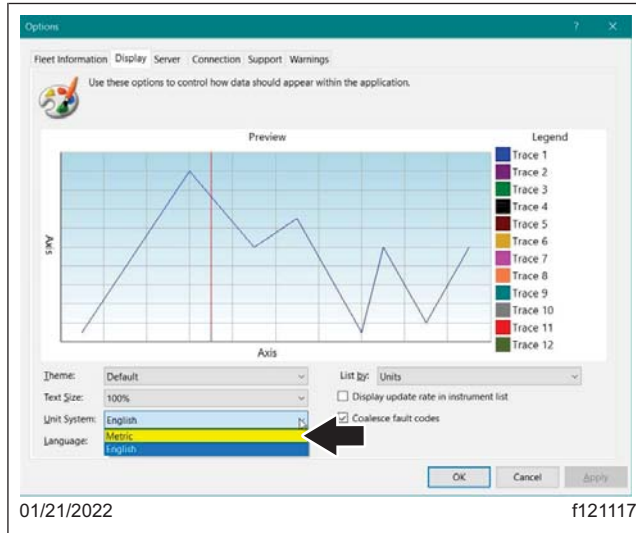
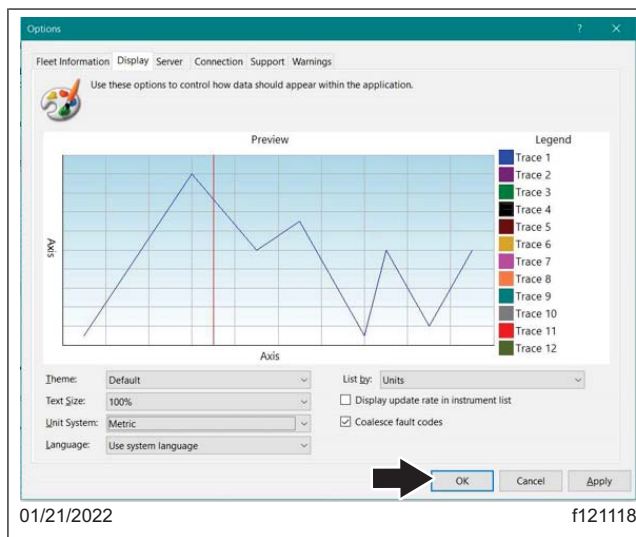

Fig. 5, Changing DiagnosticLink Units System, Step 4
Fig. 6, Changing DiagnosticLink Units System, Step 5
3.5 In the dropdown menu, select 'Metric.' Then select 'OK.' See Fig. 5 and Fig. 6.